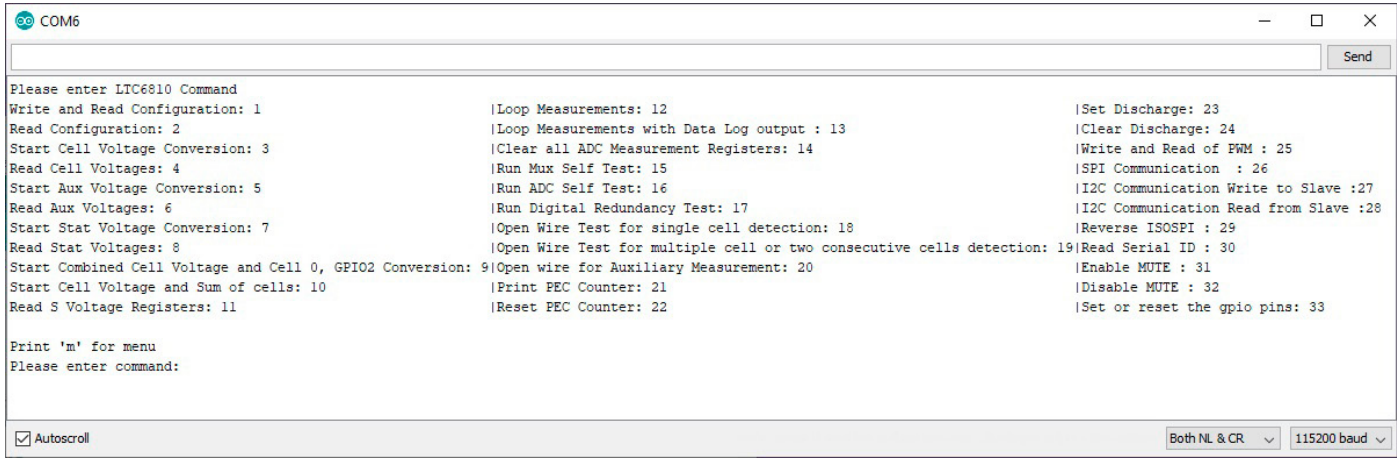

Figure 11. DC2515 Sketch Menu
- d. As shown in Figure 11, when configured correctly the **DC2515** sketch menu will appear.